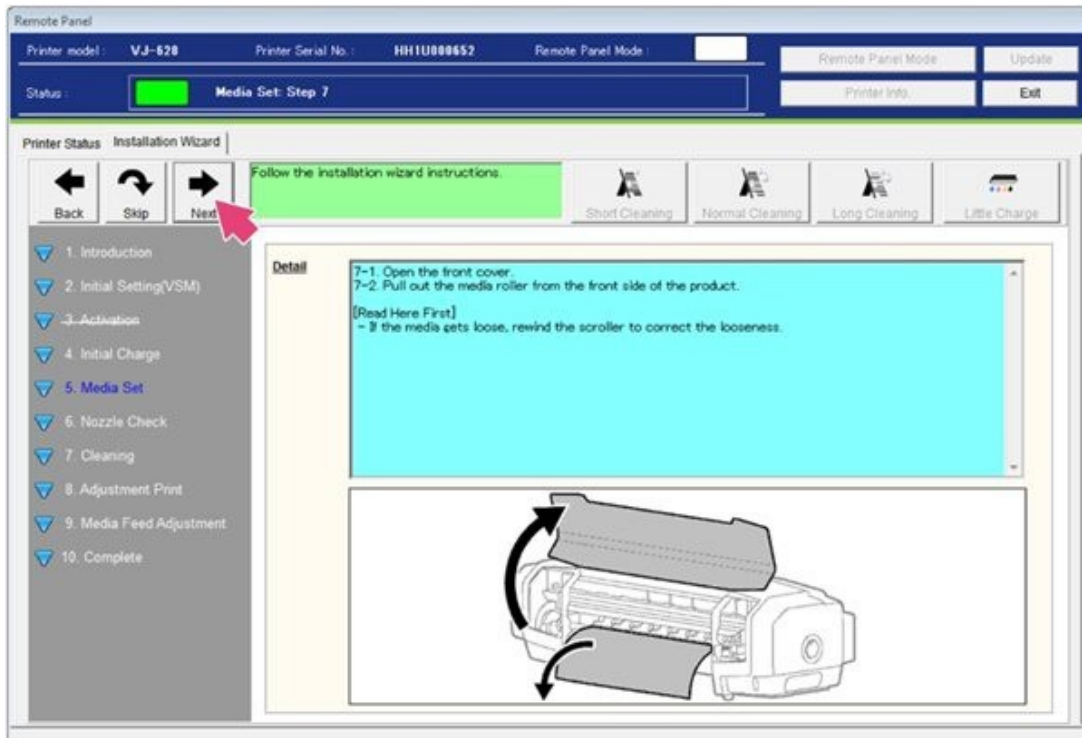

Figure 70
57. Open the front cover and pull the media through from the front of the printer; then select **Next**. See Figure 70.